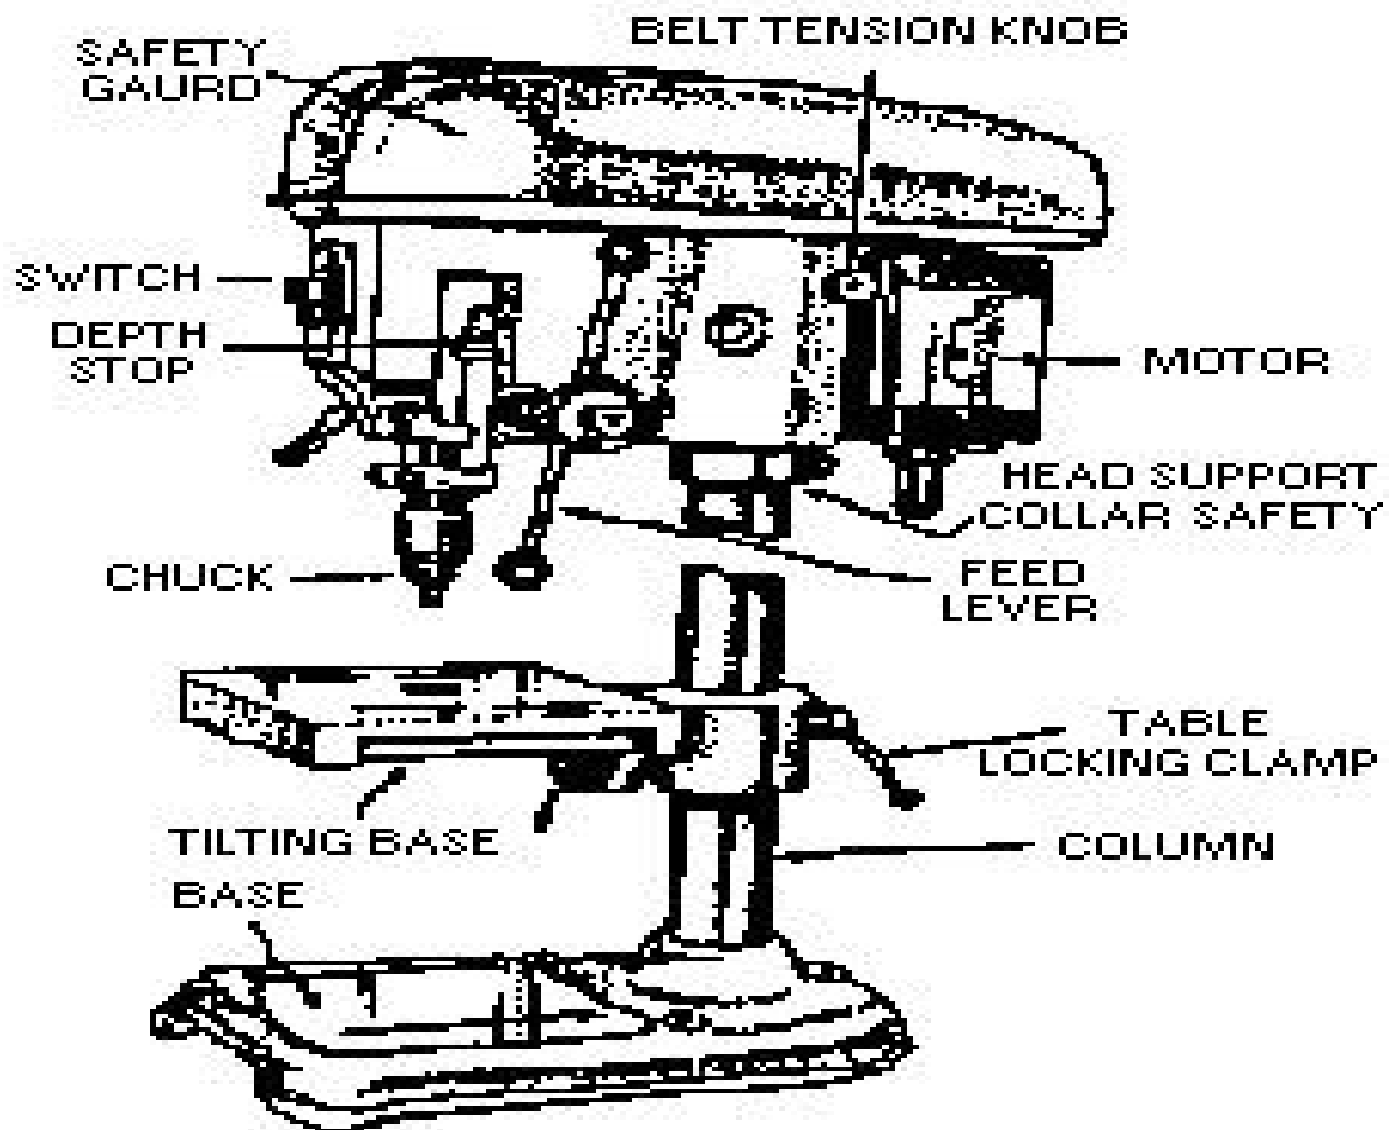

Figure 22, Drill Press
- **Drill Press.** The drill press (See Figure 22) is a tool used for boring holes. It does the same job as the portable hand drill; however, the drill press is usually used for drilling into very hard or thick metals. When drilling hard or thick materials you should use cutting oil and maybe adjust the speed of the drill so as not to burn up the drill bit.